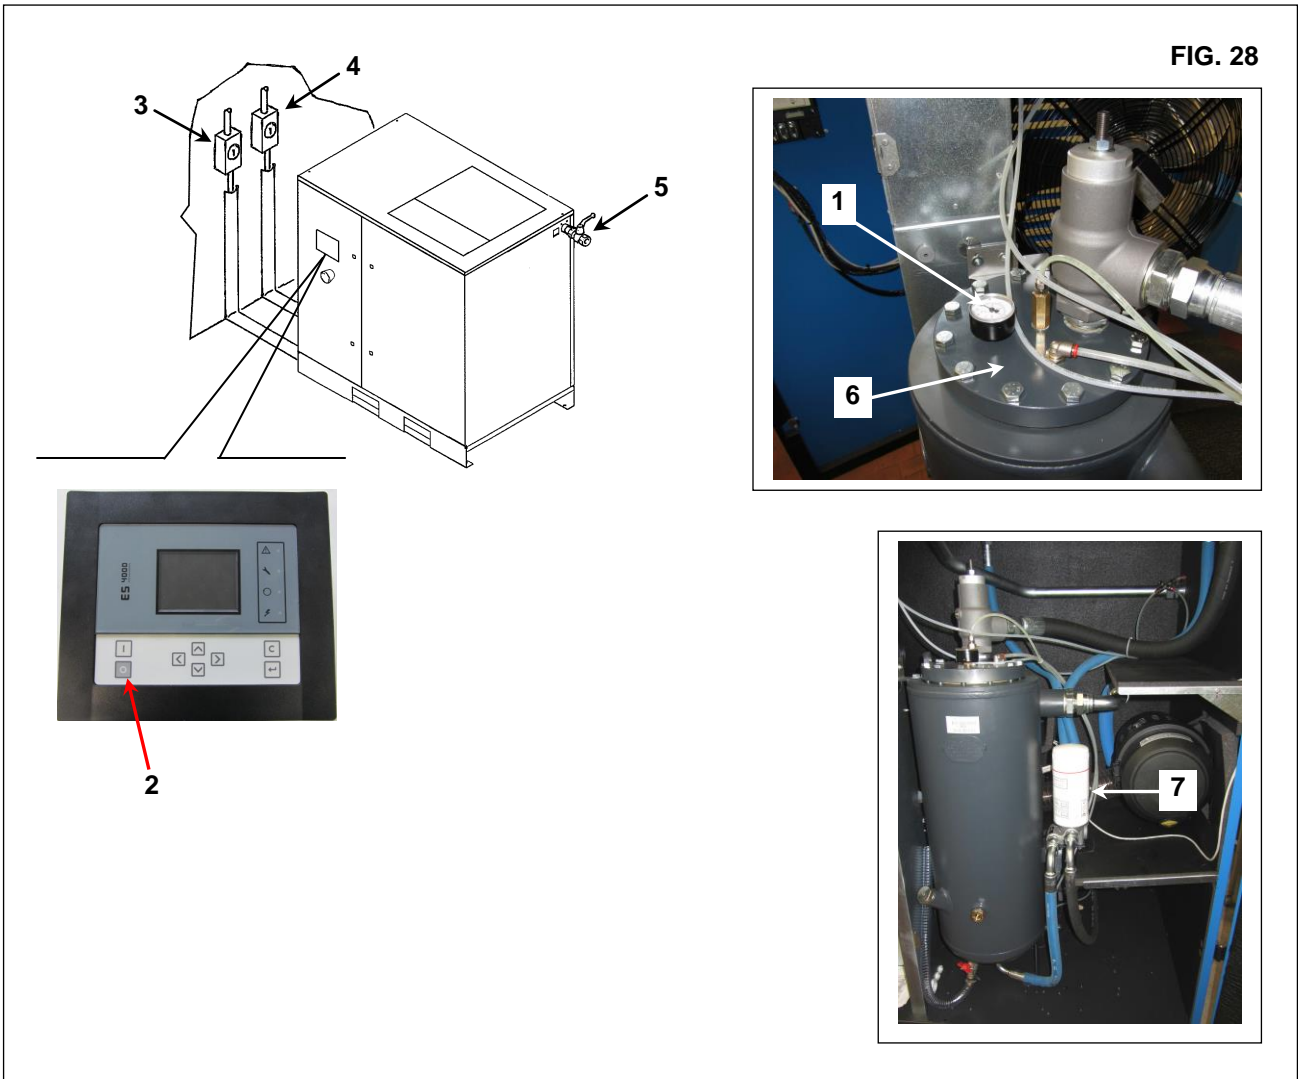

FIG. 28
Before proceeding with the replacement of the de-oiler filter or the oil filter check that there is no pressure in the machine: check the pressure gauge Ref. 1 Fig. 28.
- Switch off the machine press Ref. 2 Fig. 28: in this way the machine stops after idle time running
- Switch off the main switch, Ref. 3 (on the screw-compressor) and Ref. 4 (on the dryer if fitted) Fig. 28
- Disconnect the unit from compressed air network Ref. 5 Fig. 28
- **Check there is no pressure inside the machine: check the pressure gauge Ref. 1 Fig. 28.**
- Remove the oil separator cover Ref. 6 Fig. 28
- Remove the oil filter Ref. 7 Fig. 28